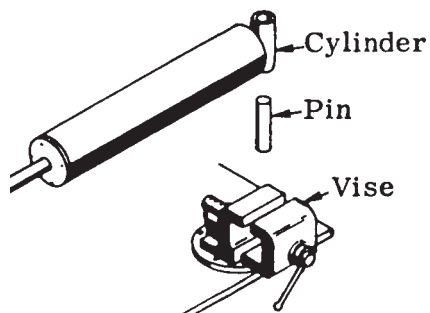

FIGURE G-1. SECURING CYLINDER
8. Install the rod wiper (item 2).
10. Carefully slide the head onto the rod. Make certain that the rod wiper (item 2) does not catch on the rod when it is first started. Slide the head all of the way onto the rod and up to the pin boss.
11. Slide the stop tube ring/wafer lock (item 13) and stop tubes (item 7 - if applicable) onto the rod.
13. Secure the rod as shown in Figure G-1 and screw the piston onto the rod by hand. You should be able to get the piston almost all the way onto the rod before using the spanner wrench.
17. Slide the piston into the cylinder. With a rotating motion, work the o-ring (item 6) and the back-up (item 5) past the threads and hand tighten the cylinder head.
18. Secure the cylinder (Figure G-1) and torque the head in the same manner as the piston (step 14, Figure G-6).